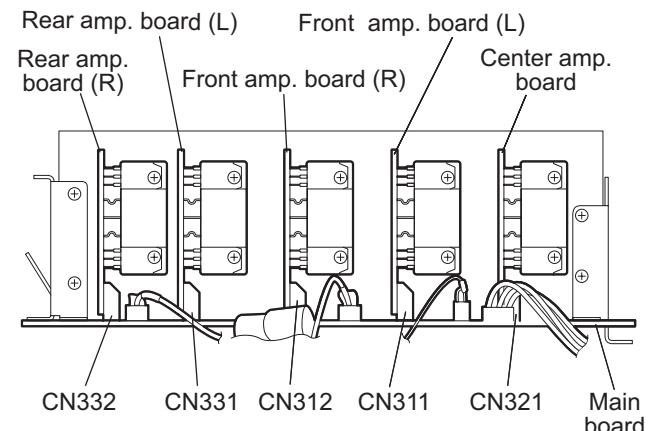

Fig.14
- Disconnect the center amp. board from the connector CN321 on the main board. (See Fig.14)
- Disconnect the front amp. board (L) from the connector CN311 on the main board. (See Fig.14)
- Disconnect the front amp. board (R) from the connector CN312 on the main board. (See Fig.14)
- Disconnect the rear amp. board (L) from the connector CN331 on the main board. (See Fig.14)
- Disconnect the rear amp. board (R) from the connector CN332 on the main board. (See Fig.14)